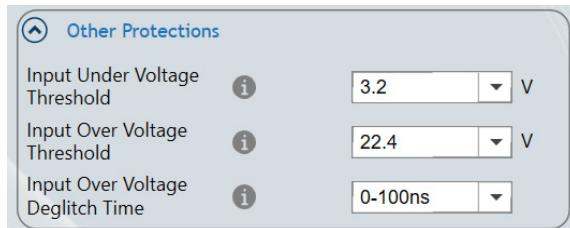

Figure 17: Additional Protections
Figure 17 shows how to configure additional protections, including the input under-voltage (UV) threshold, input over-voltage (OV) threshold, and input OV deglitch time.